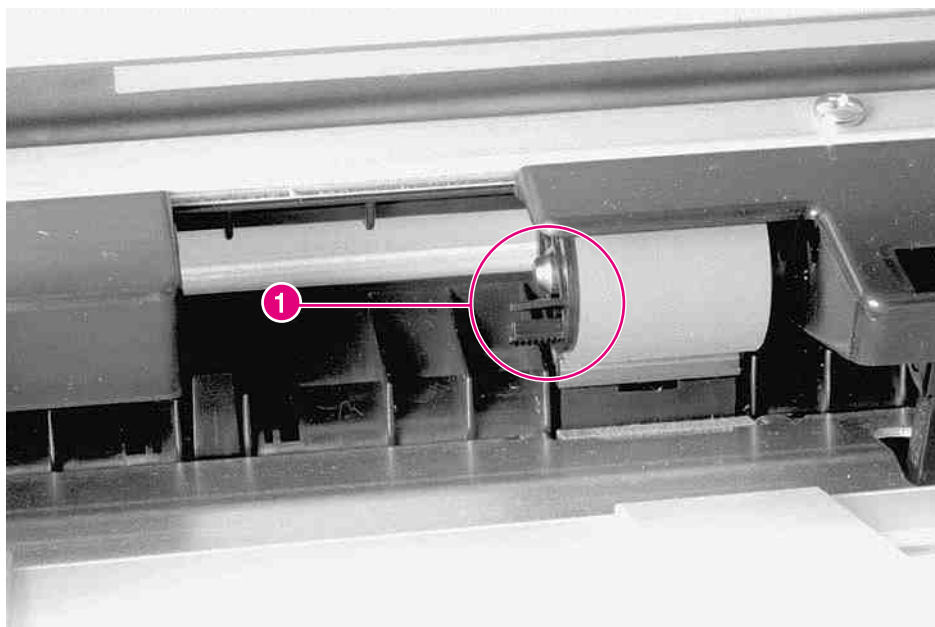

Figure 6-56 Tray 1 Feed Roller
- 2 Pinch the retainer tabs together (figure 6-56, callout 1), and slide the roller to the left off of the shaft.